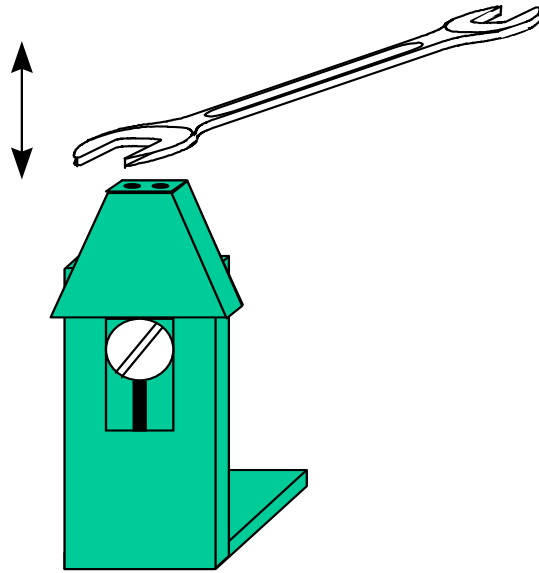

Figure 3-51
- (4) Inspect the Tacho Transducer for dirt. The tip of the transducer has two small holes. One houses an infrared LED (invisible to the eye), the other contains a receiver. Blow out both holes with dry air to ensure they are clear.
- (5) The Tacho Transducer can be tested outside the beacon by turning on the power to the beacon and measuring the voltage across "P" and "NEG" (older versions have $\frac{+}{-}$ instead of "NEG") terminals on the CALC-20. The voltage should be greater than 4.8 volts.
- (6) Hold a reflective object (chrome wrench, knife blade, signal mirror, etc.) over the Tacho Transducer. Slowly lower the object over the transducer while measuring the voltage across "L" and "NEG" terminals, as shown in Figure 3-51. **Move the object around and up and down until the lowest voltage is observed.** The voltage should fall to 1.2 volts when the wrench is 5/64"